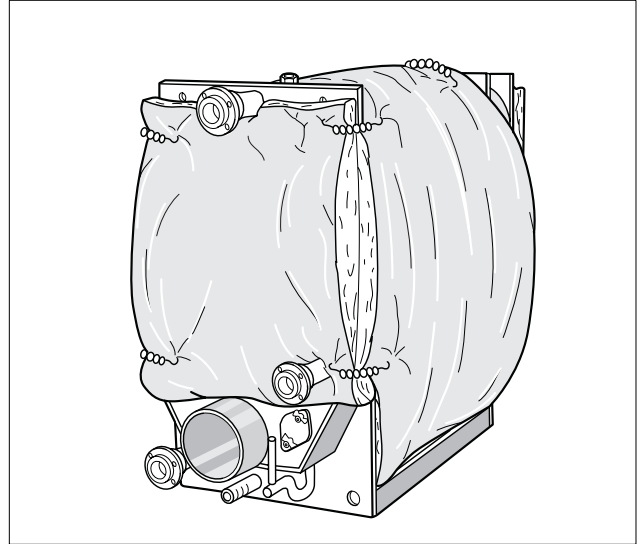

Fig. 6 Securing the rear insulation blanket
- Place the rear insulation blanket according to the cut-outs and secure with 2 springs on left and right sides to the wrap-around blanket (Fig. 6).